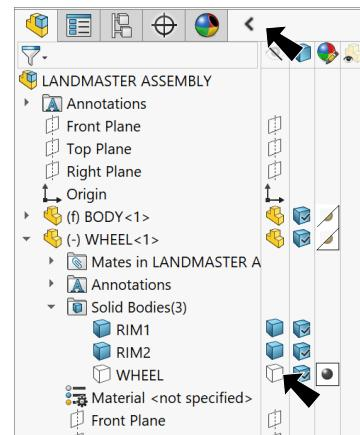

Fig. 3
Step 1. Click expand arrow at the top of the Feature Manager to expand the Display Pane, Fig. 3.
Step 2. Hide WHEEL body(s). To hide, expand WHEEL<1> part in the Feature Manager and expand Solid Bodies folder. In the Feature Manager Display Pane under Hide/Show column for WHEEL body, click Show to turn off show, Fig. 3.